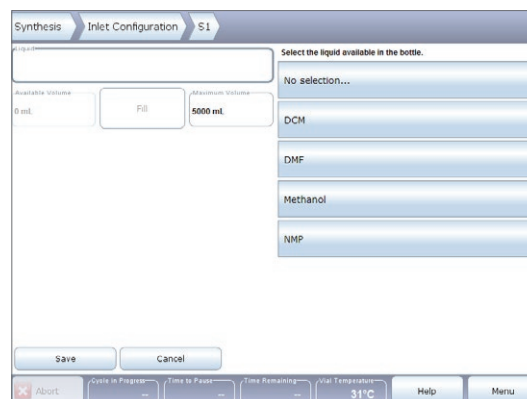

Figure 10. View to configure a solvent inlet.
- c. Press the **Liquid** text box and select the liquid that you want to assign to the bottle; see Figure 10. The system comes with predefined solvents and reagents. To add other liquids, see “Chemistry” on page 15, or the online **Help**.